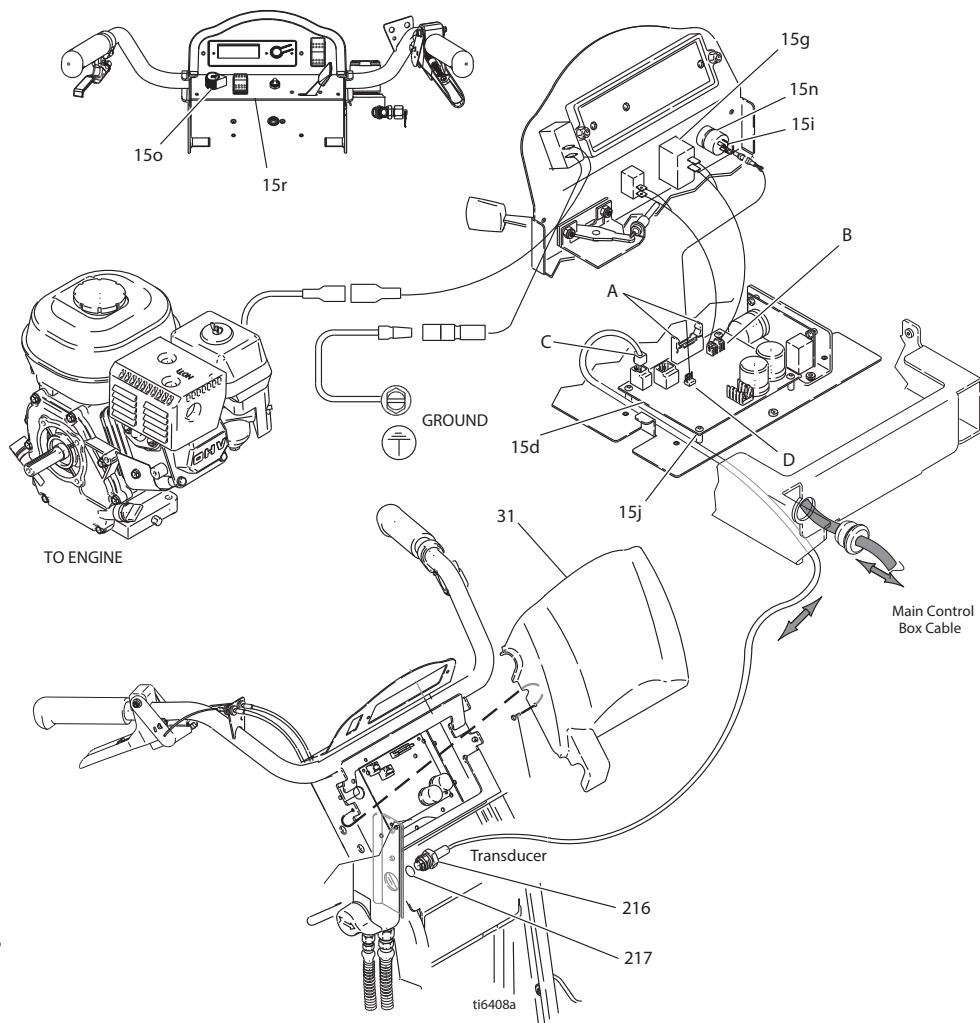

Fig. 13
- 2 Fig. 13. Remove two screws (125) and cover (31).
- 3 Pull display connector wings (A) open on PC board and pull display connector out.
- 4 Disconnect ON/OFF switch connector (B) from PC board.
- 2 Fig. 13. Remove two screws (125) and control cover (31). Pull display connector wings open on PC board and pull display connector out.
- 3 Fig. 13 and 21. Note on a paper lead connections to the control board. Disconnect leads from control board (15d).
- 4 Fig. 13. Remove four screws (15j) from control board (15d).
- 1 Fig. 13. Install control board (15d) with four screws (15j).
- 2 Fig. 13 and 21. Refer to note on lead connections to the control board. Connect leads to control board (15d).
- 3 Fig. 13. Push display connector into PC board close display connector wings on PC board. Install control cover (31) with two screws (125).
- 2 Fig. 13. Remove two screws (125) and control cover (31).
- 3 Disconnect transducer lead (C) from control board (15d).
- 4 Remove pressure control transducer (216) and o-ring (217) from filter manifold (40).
- 1 Fig. 13. Install o-ring (217) and pressure control transducer (216) in filter manifold (40). Torque to 35-45 ft-lb.
- 2 Connect transducer lead (C) to control board (15d).
- 3 Install control cover (31) with two screws (125).
- 3 Disconnect lead (D) from control board (15d).
- 2 Fig. 13. Install pressure adjust potentiometer (15i), shaft nut, lock-washer and potentiometer knob (15o).
- 3 Connect lead (D) to control board (15d).
- 4 Install control cover (31) with two screws (125).